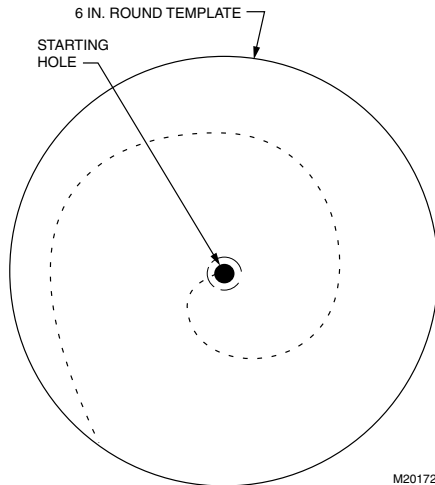

Fig. 6. Cutting bypass opening.
10. Carefully cut the opening for the 6 in. (155 mm) starter collar end of the 48 in. (1.22 m) flex duct. See Fig. 6. Use a drill to start the cut in the middle of the circle. Cut in an outward spiral to assist in controlling the cut.